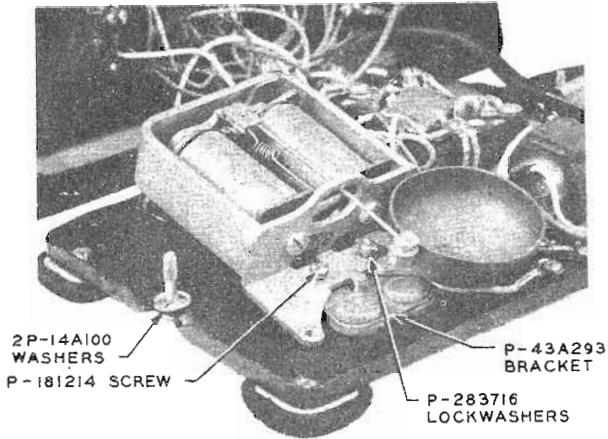
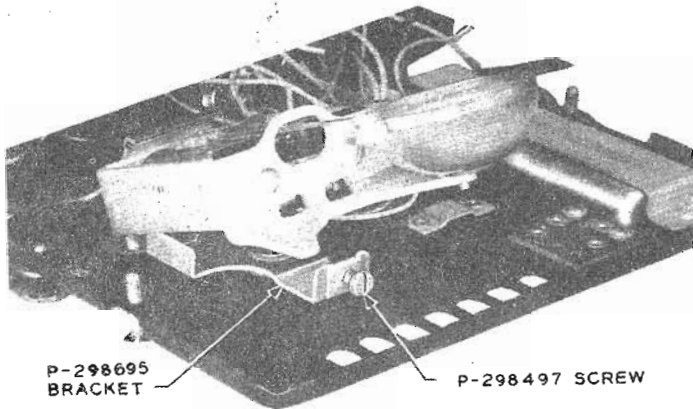

Fig. 10 — Ringer Assembly Using P-43A293 Bracket
Fig. 11 — Ringer Assembly Using P-298695 Bracket
3.08 On desk-type sets the terminals of the 6-type dial may obstruct the ringer clapper rod when the ringer is mounted on a triangular mounting bracket. To provide the necessary clearance, two captive mounting washers should be placed on each of the mounting screws which hold the upper housing to the base plate of the telephone set (see Fig. 10).
3.10 Ringer assembly where the P-43A293 bracket is part of the telephone set mounting is shown in Fig. 10. When the P-298695 bracket is part of the telephone set mounting, mount the ringer as shown in Fig. 11. The left ringer gong is omitted for clarity.